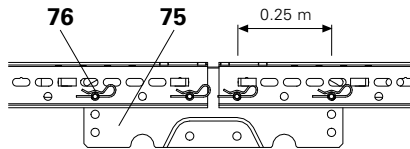

Fig. D2.02
The UK 70 universal coupling (75) is fixed using four pins and cotter pins (76). (Fig. D2.02)